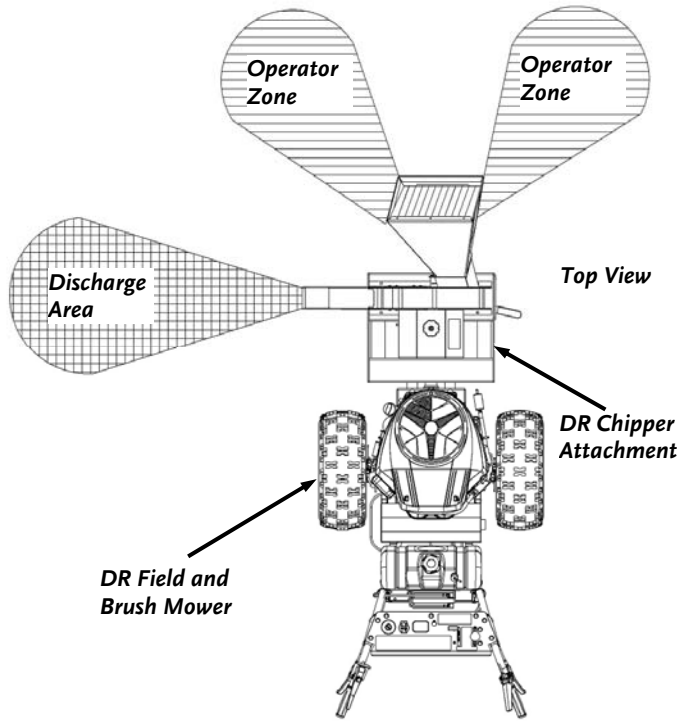

Figure 19
- Only operate the DR CHIPPER ATTACHMENT from the Operator Zone (**Figure 19**).